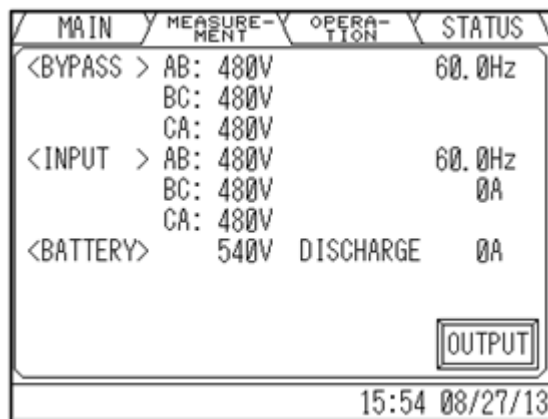
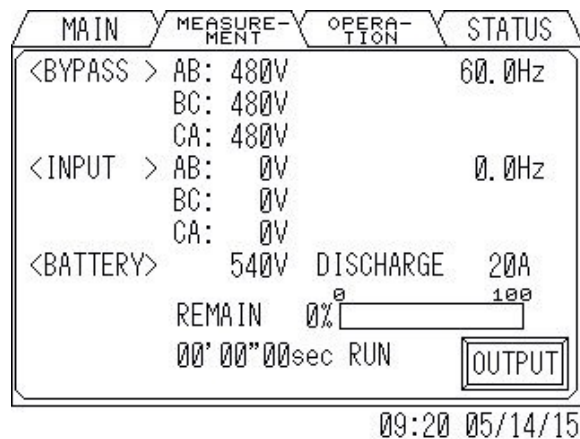

Figure 4-6 Input Values
Figure 4-8 Values in Battery operation
B) MEASUREMENT MENU (Figure 4-6 to Figure 4-8)